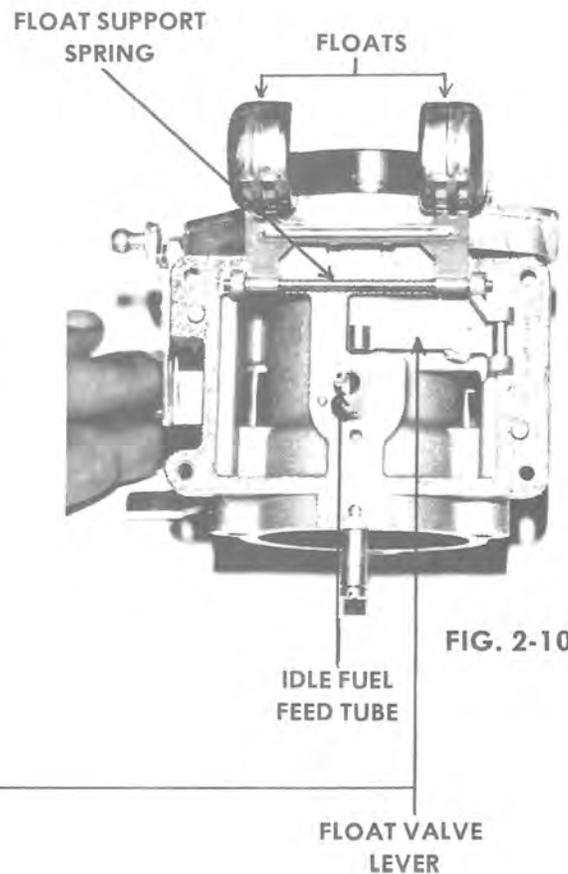

FIG. 2-10
- c. During installation, wind the float support spring $\frac{1}{2}$ turn from rest position for correct loading. (See FIG. 2-10)